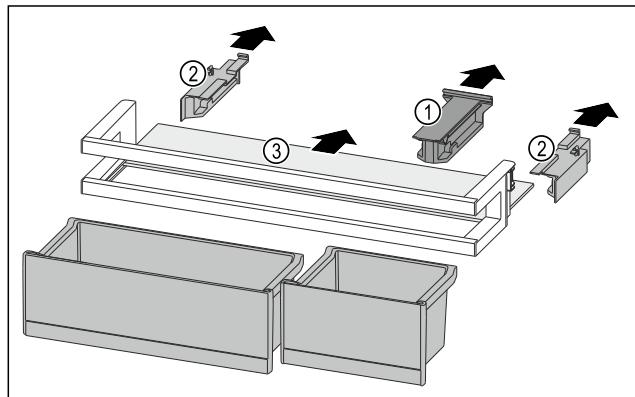

Fig. 83
- Pull off the holding part Fig. 83 (1).
- Pull off the side parts Fig. 83 (2).
- Remove the shelf Fig. 83 (3).